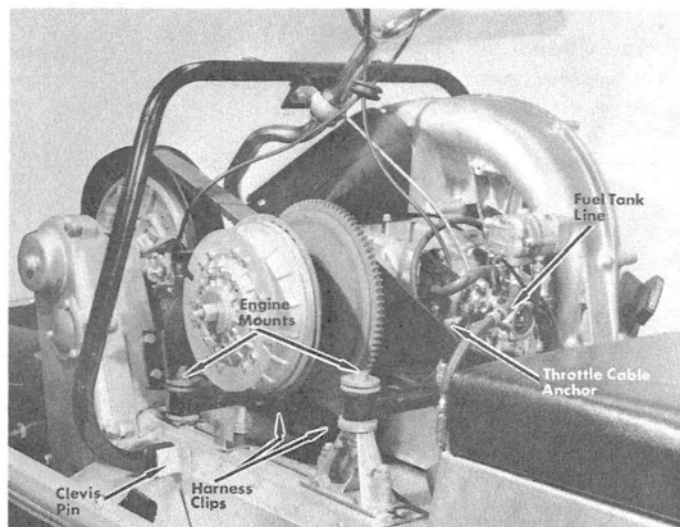

Figure 2. Engine Removal
7. Remove taillight wiring harness from 2 retaining clips on air duct assembly. (Figure 2)
9. Disconnect throttle core wire from anchor on carburetor and remove core wire. (Figure 2)